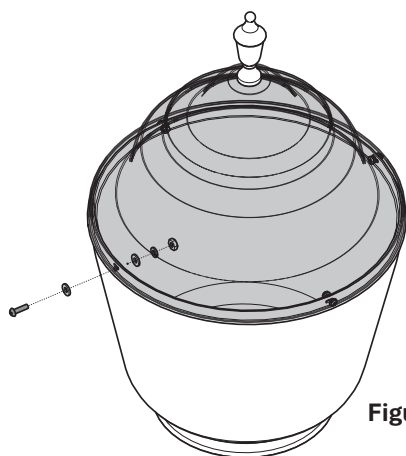

Figure 3
3. Assemble the cover and reflector with the provided hardware. A flat washer, spring washer and hex nut should be used to secure each screw from inside of the reflector [Figure 3].